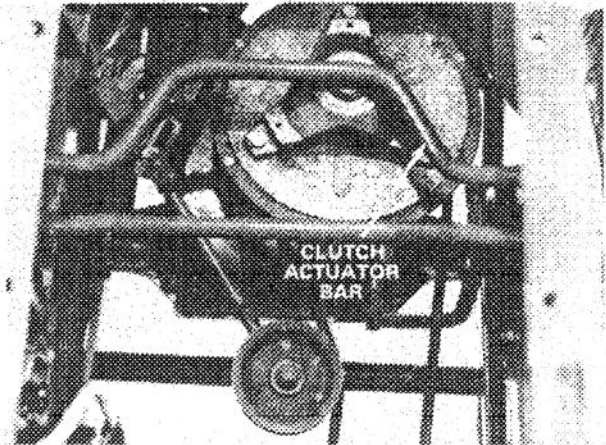

Figure 45
7. Slide the belt between the top of the traction clutch assembly and the clutch actuator bar (Fig. 45).